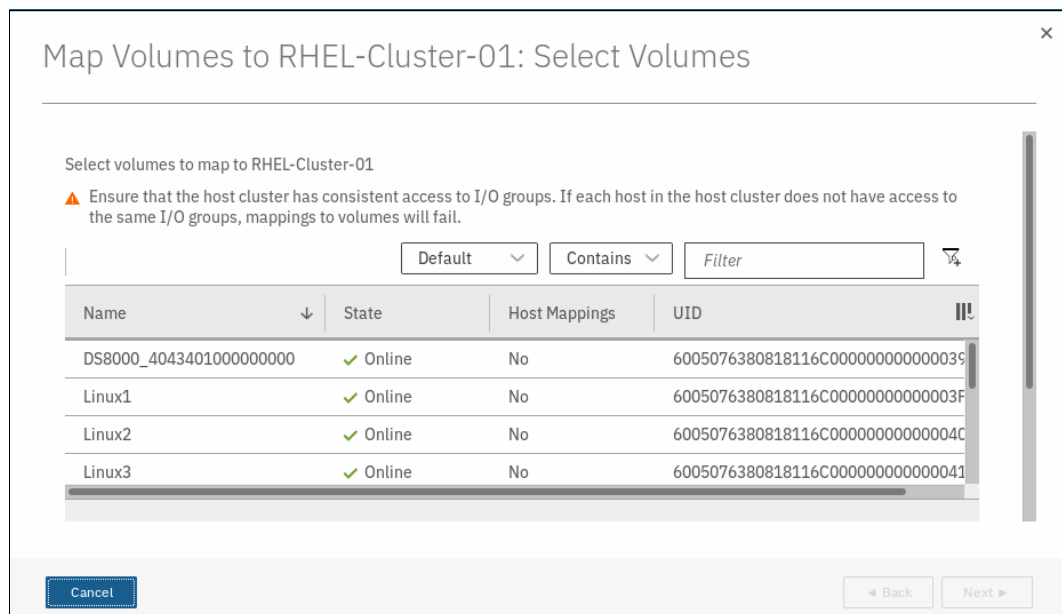

Figure 5-87 Volume list
3. Click **Add Volume Mappings**. A window that lists the volumes that you can select to assign to a host cluster opens, as shown in Figure 5-87.